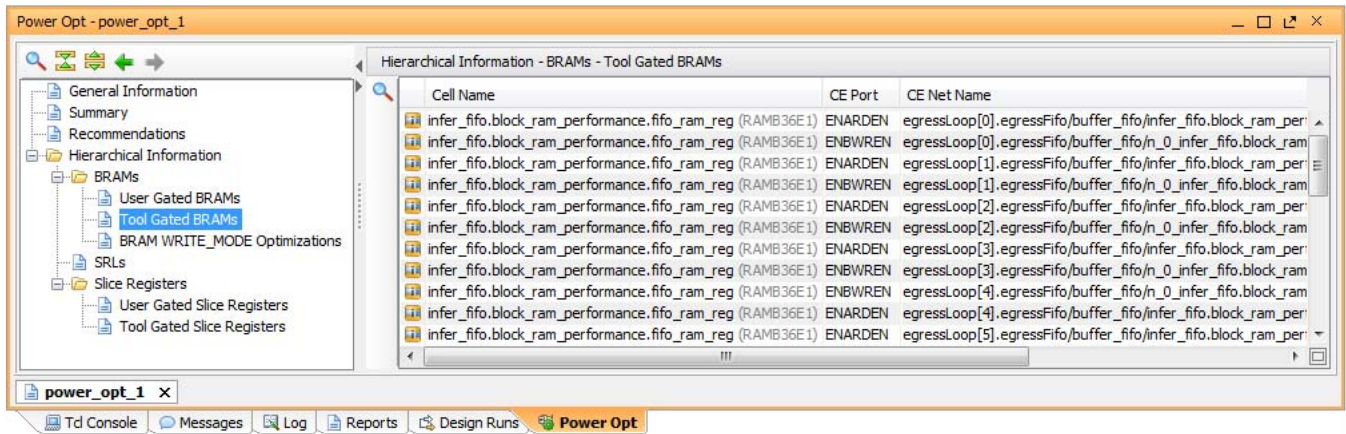

Figure 4-10: Power Optimization Report in the Vivado IDE
- **Hierarchical Information:** Details of the BRAMs, SRLs, and Slice Registers for which Vivado has performed power optimization. The view in Figure 4-10 contains a list of the BRAM cells that were optimized during implementation (**Tool Gated BRAMs**).